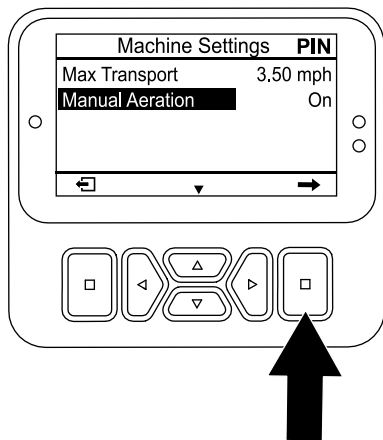

Figure 113
5. Press the down button until the MANUAL AERATION option is selected, then press the select button (Figure 113) to set manual aeration to ON.